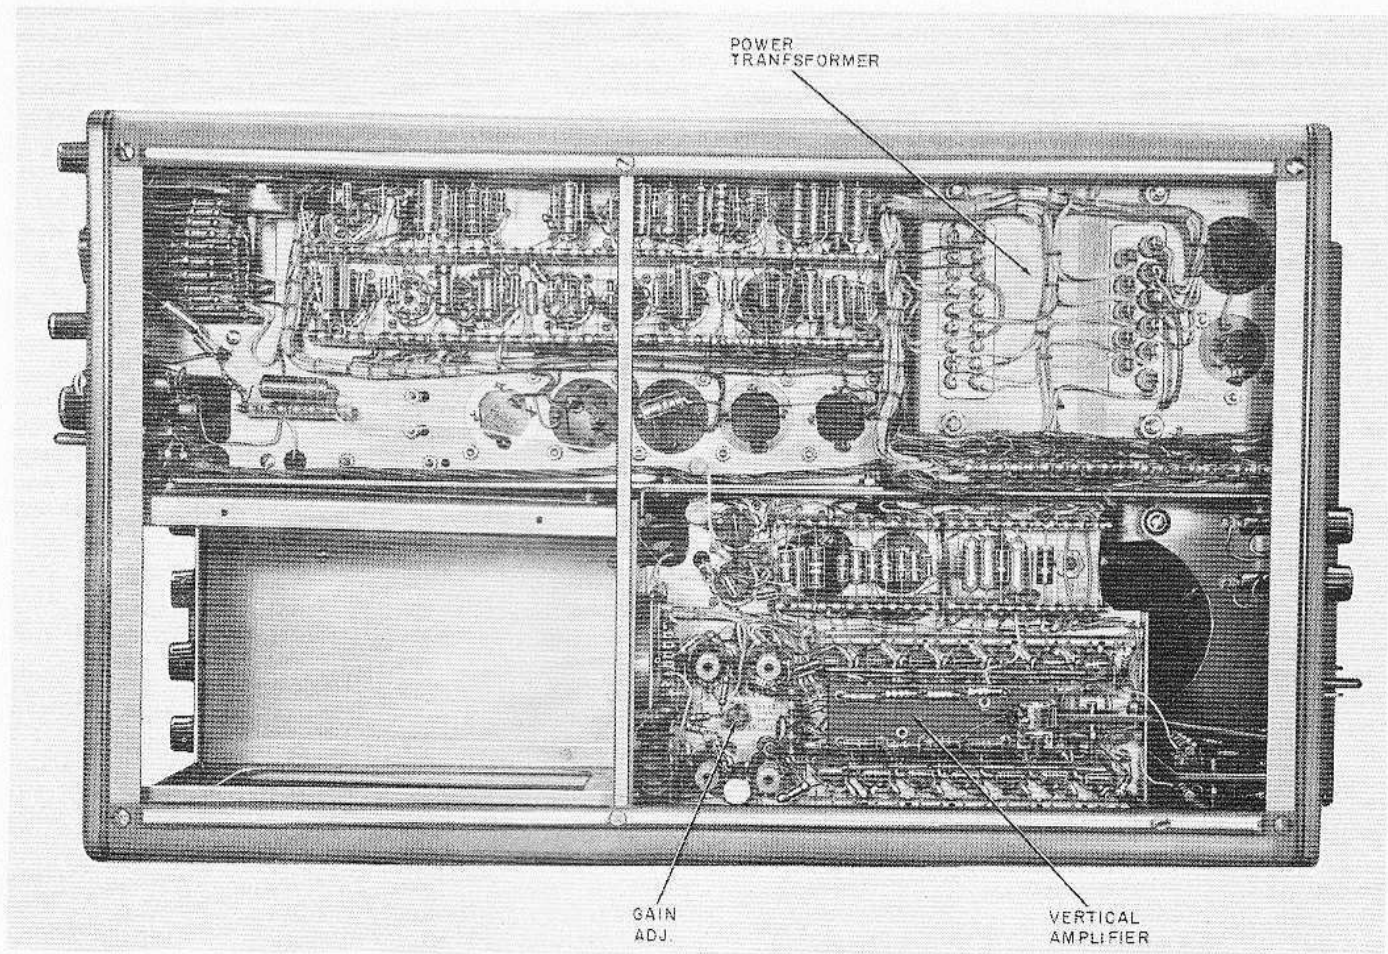

Figure 7-8. Oscilloscope Bottom View
- b. Set the Gain Adj. potentiometer (see figure 7-8) for exactly four centimeters vertical deflection.